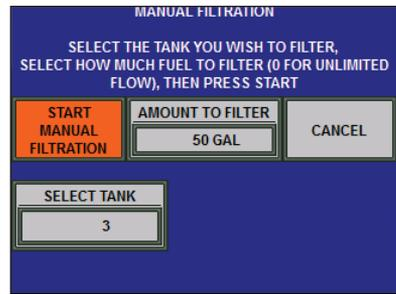

Figure 11 Manual Filtration Screen
3. The touchscreen will change to the Manual Filtration Screen (Figure 11).